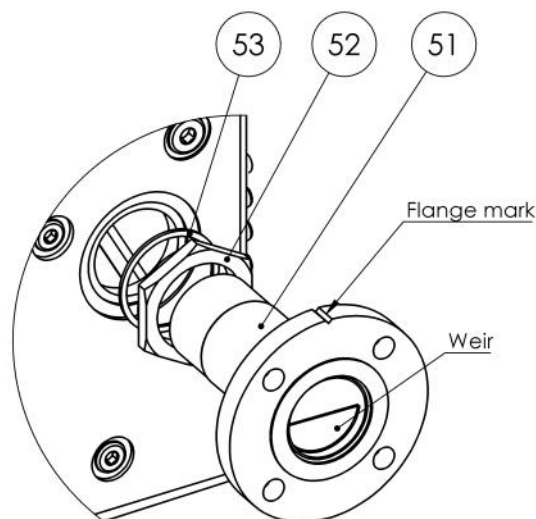

Fig. 54
- Screw the oil outlet pipe (51) with nut (52) and copper ring (53) into the oil outlet connection hole. Seal with liquid sealing compound (fig.54).
- Tighten the nut (52).